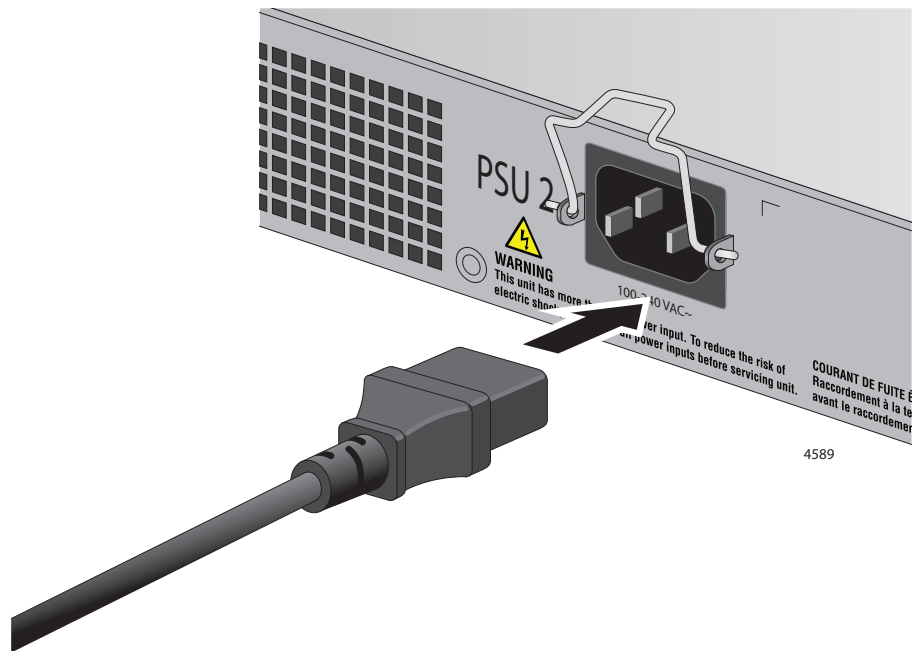

Figure 31. Connecting the AC Power Cords
2. Connect the AC power cord to the AC power connector on the rear panel. Refer to Figure 31 on page 79.